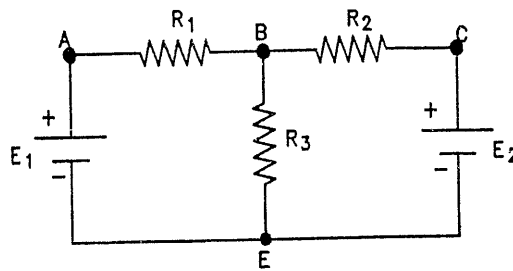

FIG. 1.61 : ELECTRICAL NETWORK
4. **Active element** : The element which is capable of delivering an average power (or energy) greater than zero to some external device over an infinite time interval is called an active element. For example, ideal voltage and current sources e.g. in Fig. 1.61 E_1 and E_2 are active elements.
6. **Node** : The point at which two or more elements are connected together is generally called as node e.g. A, B, C and E, in Fig. 1.61
7. **Junction** : It is a point where three or more elements are connected together e.g. B and E in Fig. 1.61.
8. **Branch** : A section or portion of a network or circuit which lies between two junction points is called as branch. As shown in Fig. 1.61, there are three branches between the junctions B and E such as BE, BAE and BCE.
9. **Loop** : Any closed path in a network is called a loop e.g. ABEA, BCEB, ABCEA are the loops in Fig. 1.61.
10. **Mesh** : It is the most elementary form of a loop and cannot be further divided into other loops e.g. ABEA and BCEB are the meshes in Fig. 1.61 because they cannot be further divided into other closed paths (or loops). But ABCEA cannot be called as mesh because it encloses two loops ABEA and BCEB.